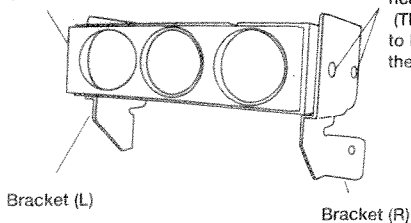

Figure 5-5
5. Install the brackets (L and R) to the Turbo Gauge Pack using the M5 countersunk head screws provided with the product. (Figure 5-5) Be careful not to confuse bracket L with bracket R. (Tightening torque  $0.5 \pm 0.1 \text{ N}\cdot\text{m}$  ( $0.37 \pm 0.07 \text{ ft}\cdot\text{lb}$ )).